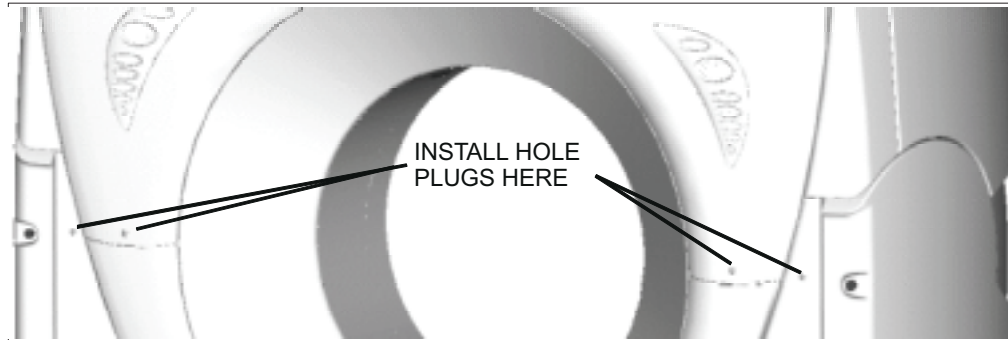

FIGURE 242 FRONT HOLE PLUG INSTALLATION
1. Install the Hole Plugs (p/n T39A-1013) at the four locations shown in Figure 242.